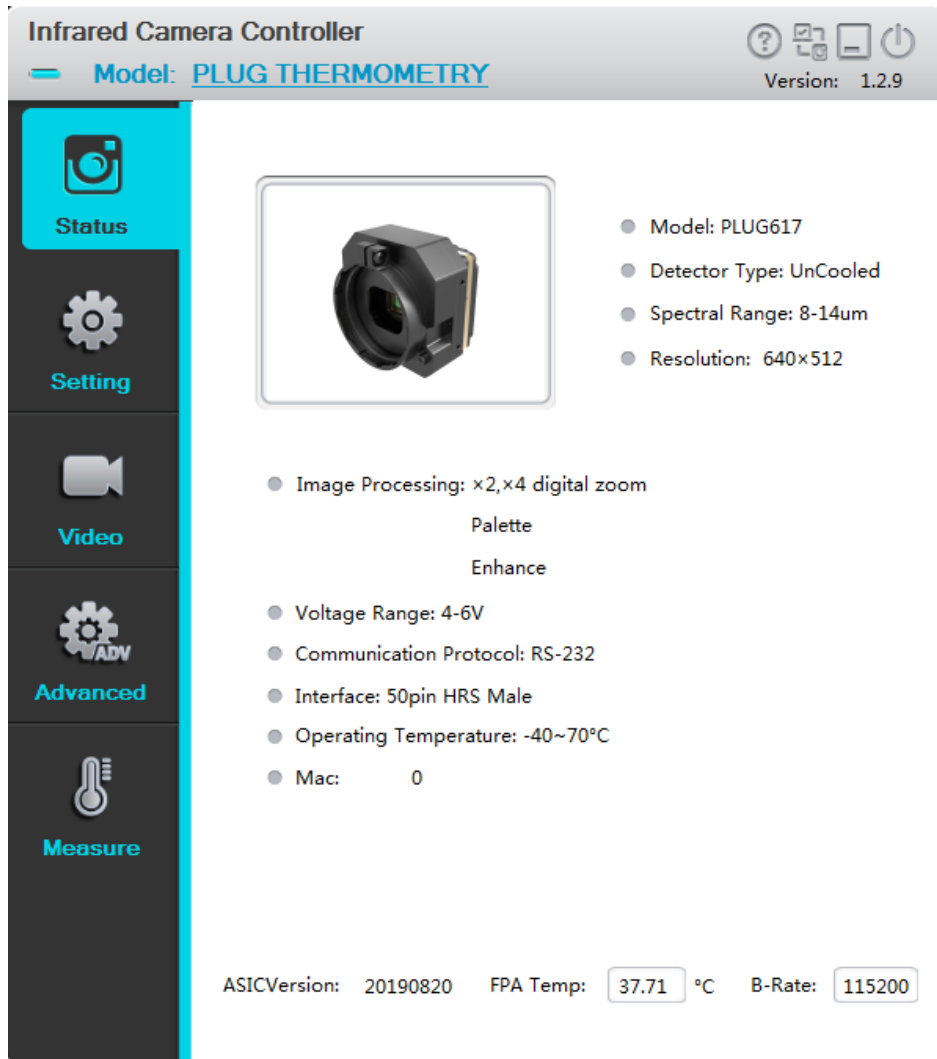

Figure 4-17: Module status interface
1. Click the "Connect" to communicate with the module successfully, and then allow the software to enter the module status interface. The upper left corner of the interface shows the current connection status and module type, as shown in Figure 4-17.